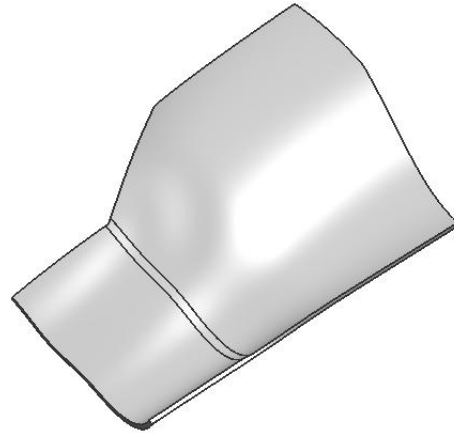

Figure 2–50
1. Open **MODEL\_SETUP\_B.prt**. The model displays as shown in Figure 2–50.